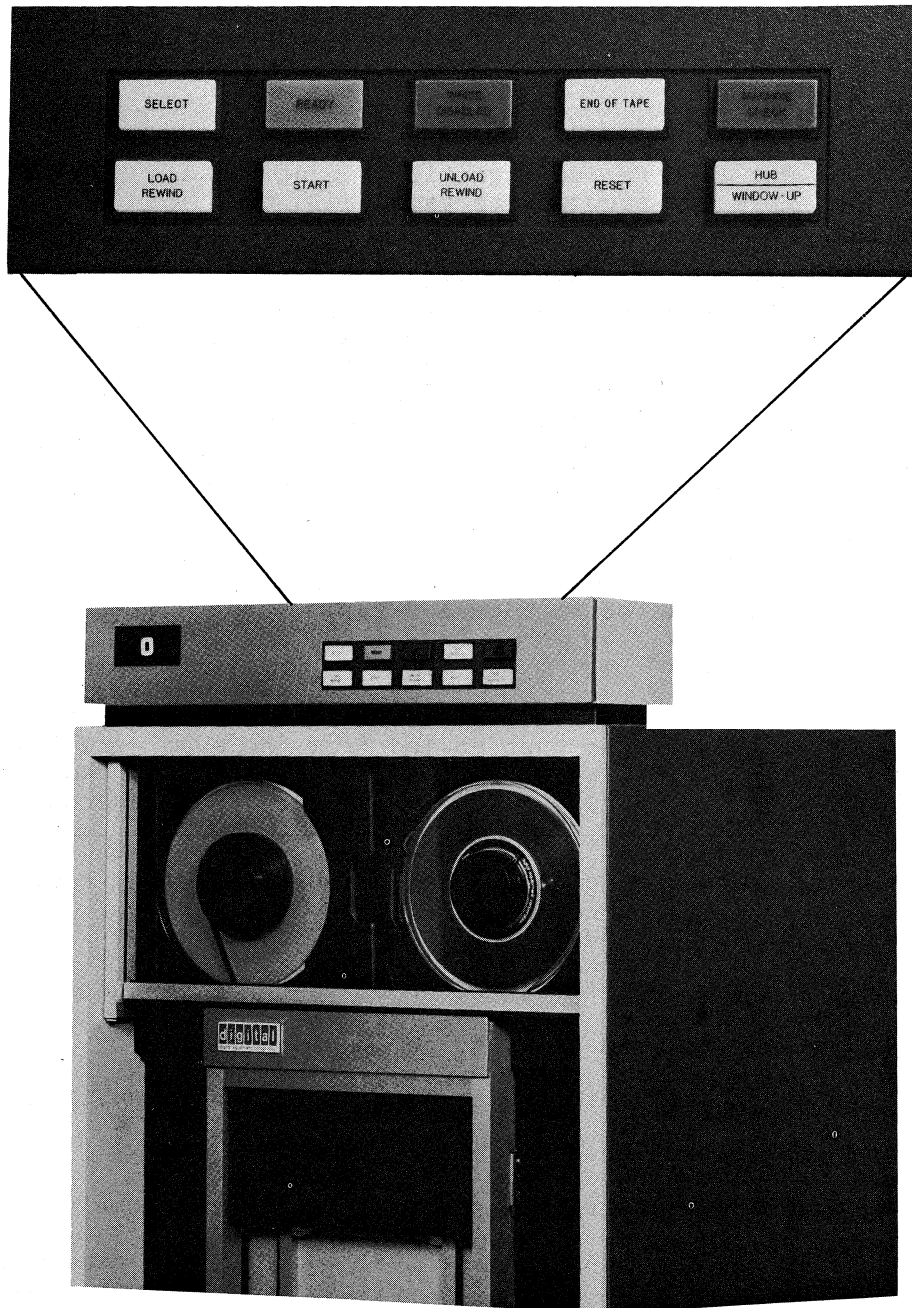

Figure 7-12 TU70 Series Magnetic Tape Drive
7.4.1.3 TU70, TU71, and TU72 Drives (Refer to Figure 7-12)